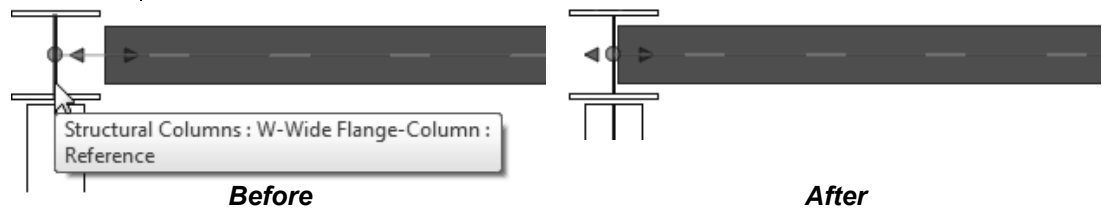

Figure 7–41
- The end of the member lengthens to the new reference location (it does not move the beam), as shown on the right in Figure 7–41.